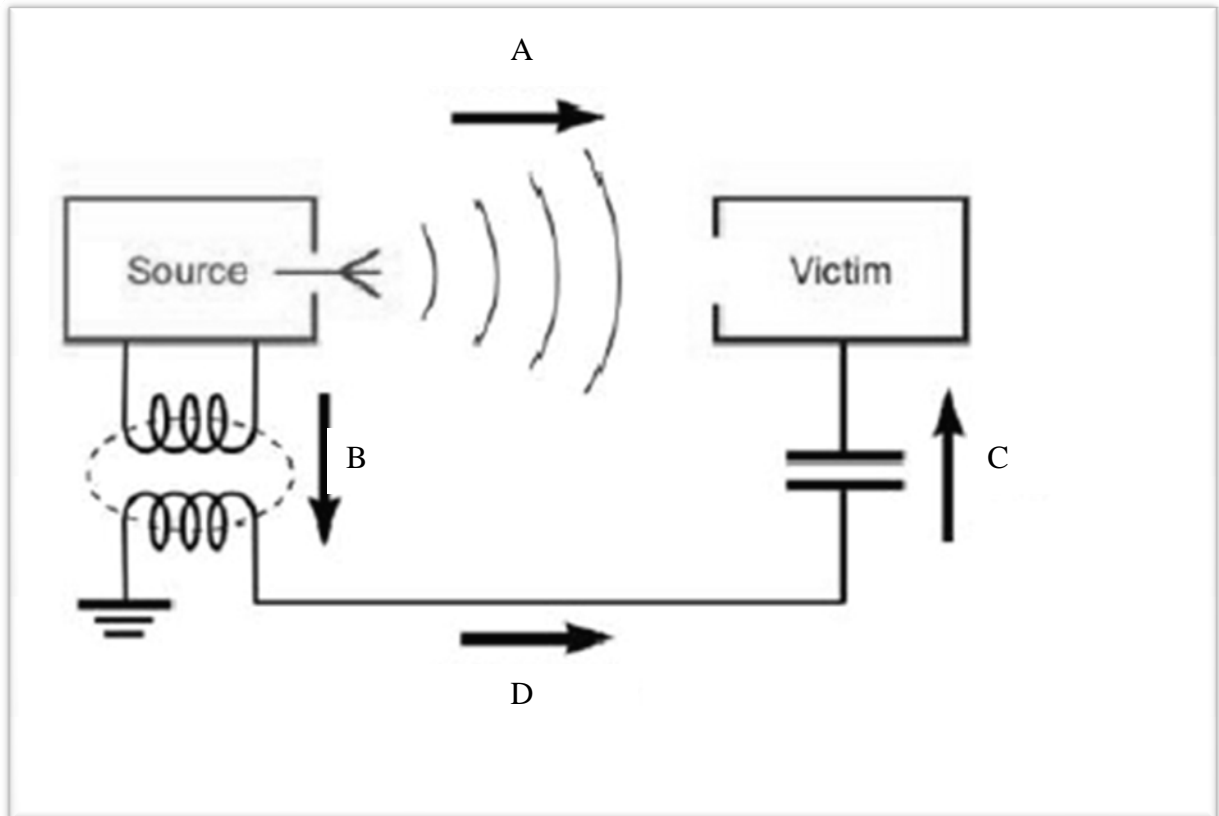

Figure Q2(a)
- 2(a) There are four electromagnetic interference (EMI) coupling modes, shown by the four arrows A, B, C and D in Figure Q2(a). Identify the type of coupling modes for each arrow.